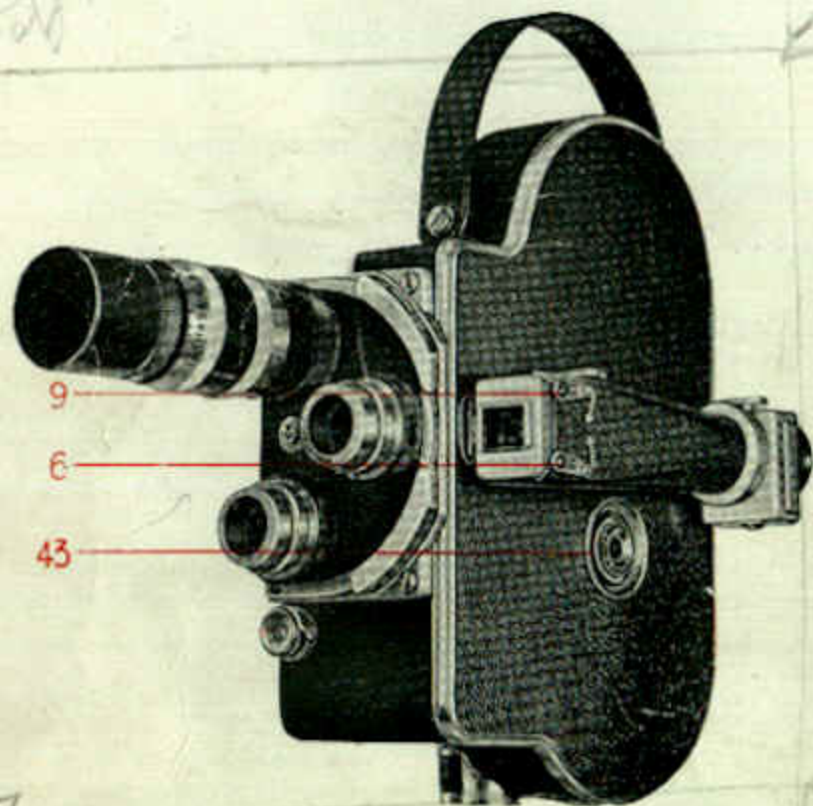

Fig. 8.
- e. Remove the lid by means of button 43 (Fig. 8), giving a half-turn anti-clockwise (0 ←).